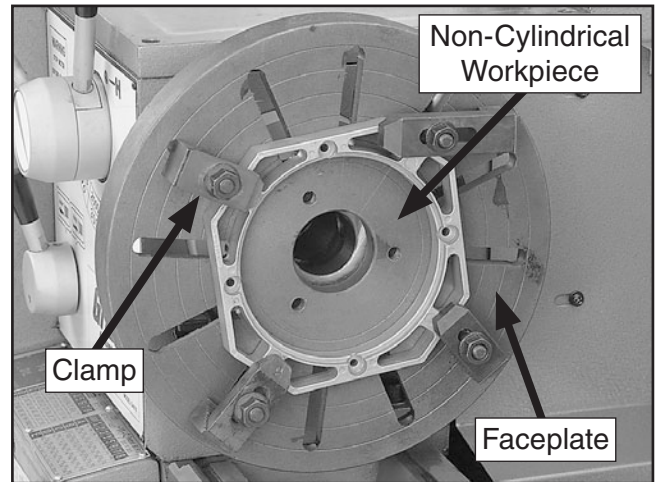

Figure 33. Example of a non-cylindrical workpiece mounted on a typical faceplate.
3. Secure the workpiece on the faceplate with a minimum of three independent clamping devices (see **Figure 33** for an example).